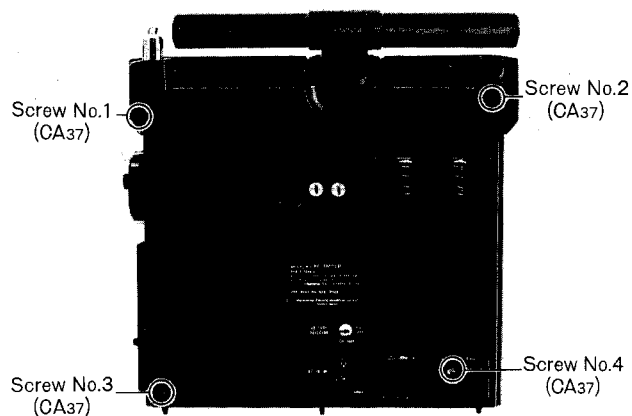

Fig. 1
1. Remove the seven (7) control knobs (VOLUME, BASS, TREBLE, BAND, BFO, MUTING and FM AFC/MW SENS). (To remove those controls, wind a cord around the control and pull it outward.)
3. Remove the four (4) cabinet cover screws (nos. 1~4), as shown in fig. 1.